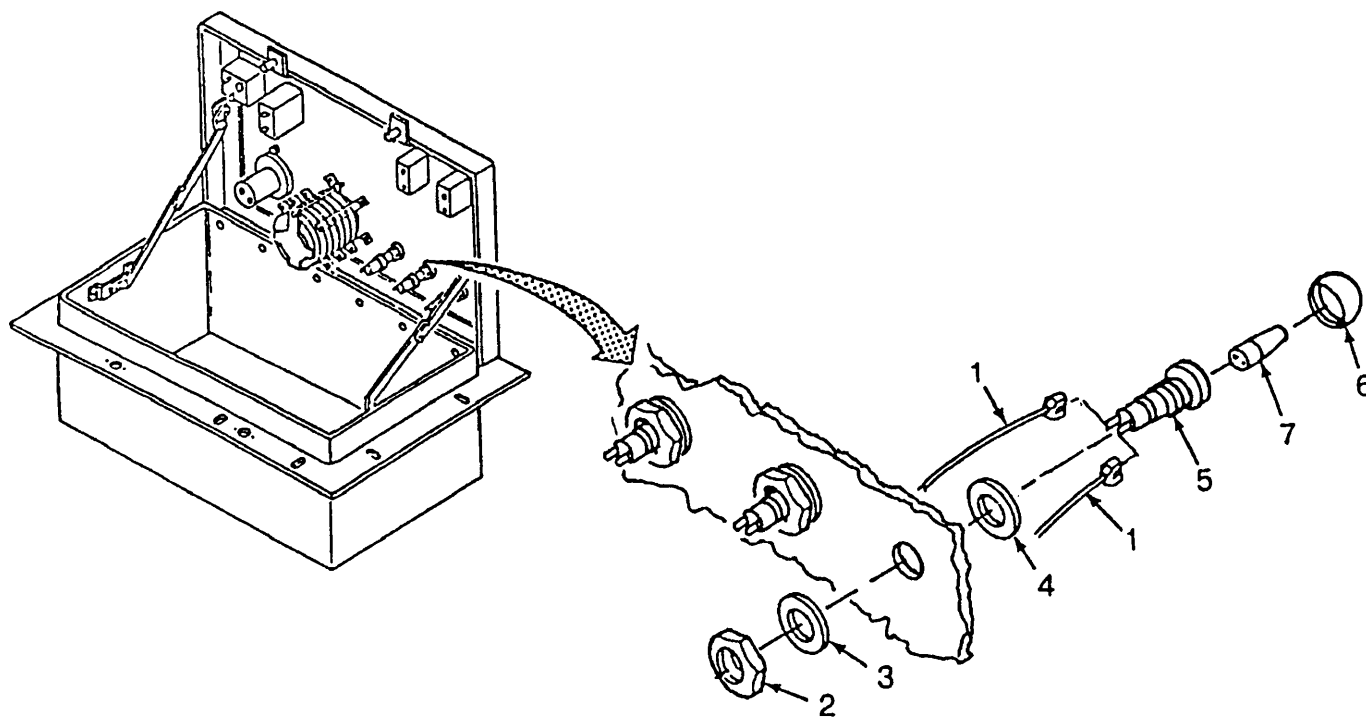

Figure 4-29. Control Box Disassembly Flameout, High Temp and Power Lights
- a. Disassembly - continued (Refer to Figure 4-29)
- (15) Tag and disconnect two wires (1).
- (16) Remove nut (2), lockwasher (3), gasket (4) and light (5).
- (17) Remove cap (6) and bulb (7).